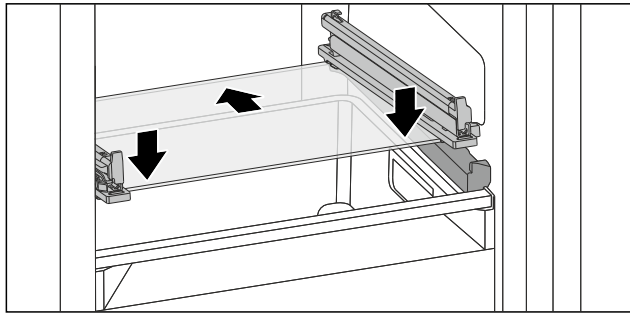

Fig. 203 Tilting drawer glass shelf
- ▶ Position glass shelf at an angle behind the stoppers. (see Fig. 203)